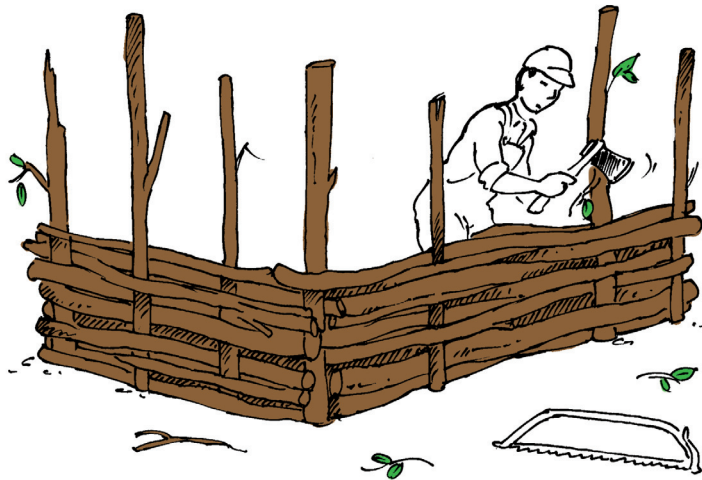

Figure 8: House A
1. (a) What material is being used to build the house in Figure 8?
- (c) What tools are used by the people building the house in Figure 8?